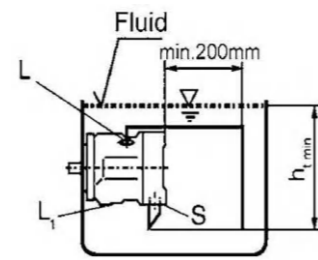

Fig. 3
a) If the minimum fluid level is above the top of the pump, port "L1," closed, "L" and "S" should remain open, L piped and recommendation S piped (see Fig. 3)